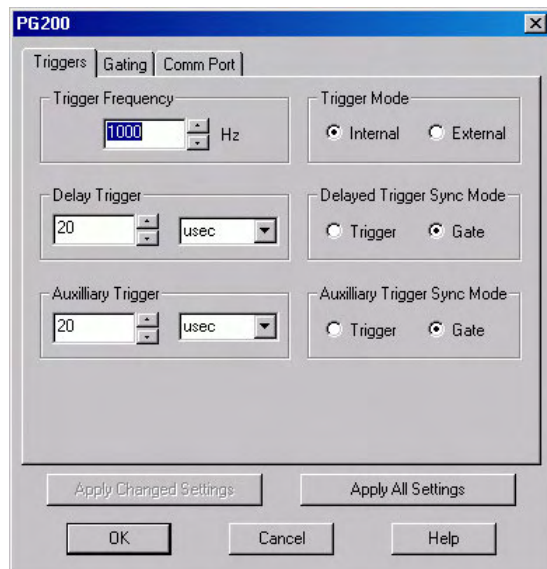

Figure 122. PG200 Triggers tab page
8. Click on the **Triggers** tab (Figure 122).